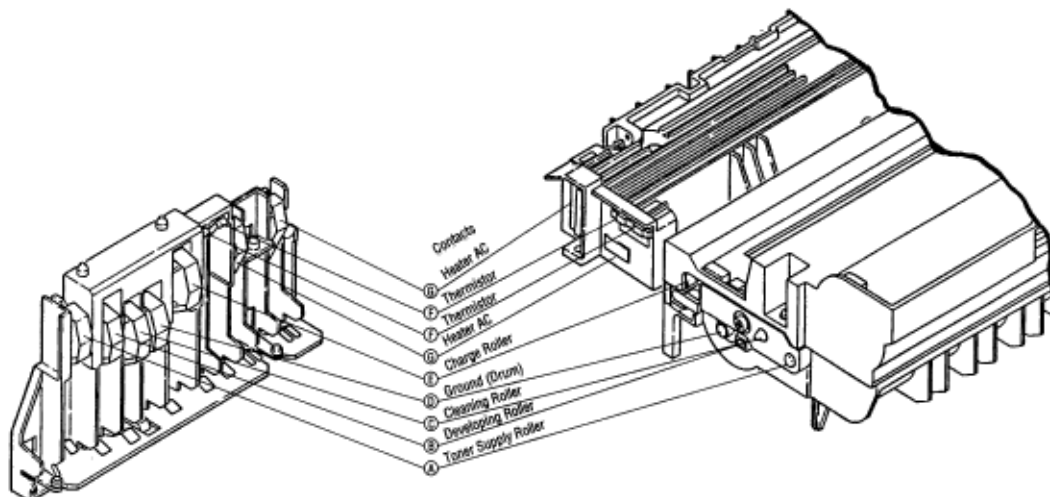

Figure 6-4
▼ Yes Is the contact of the image drum cartridge in proper contact with the ground contact (see Fig. 6-4 (D))?
↓ No Are the contacts of the toner supply roller, developing roller, image drum and charging roller in proper contact with the contact assy (see Fig. 6-4 (A), (B), (C), (D), (E))?
- ↓ Yes Is the contact of the fusing unit assy in proper contact with the contact assy (see Fig. 6-4 (G))?